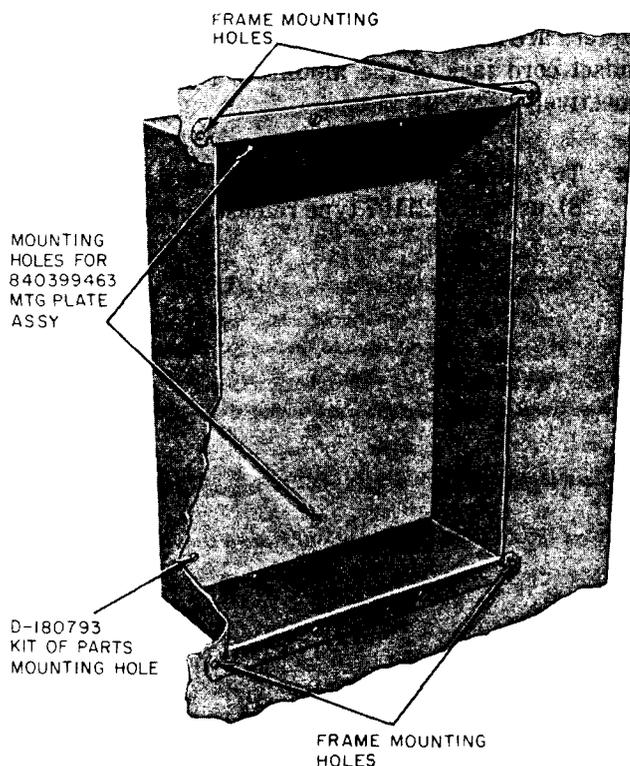
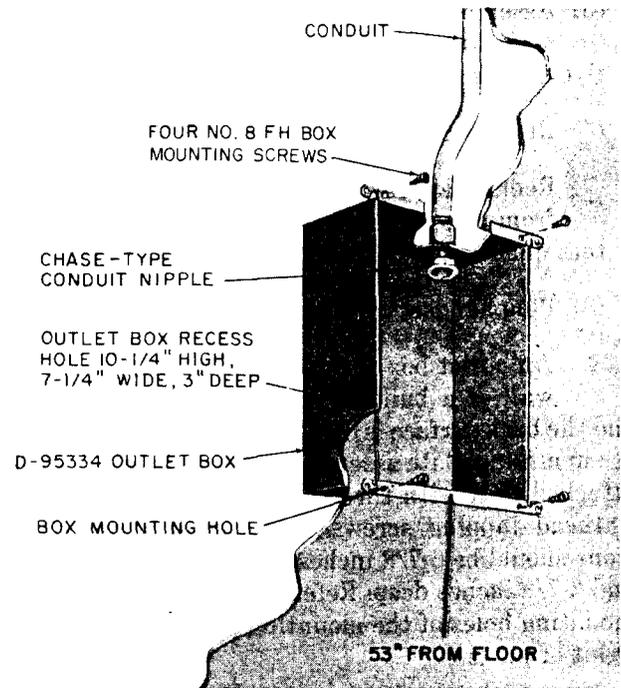

Fig. 4—D-95334 Outlet Box
Fig. 5—Mounting of Outlet Box
3.05 Outlet boxes (Fig. 4 and 5) furnished by the customer or telephone company should be installed by the customer.
3.06 It is recommended that generally the standard outlet box (Fig. 4 or 5) be mounted in a recess 10-1/4 inches high, 7-1/4 inches wide, 3 inches deep, and 53 inches from floor as illustrated in Fig. 5 or as specified by the customer.
- (1) Mount the mounting plate assembly in the outlet box using two round head machine screws 802056515 (P-205651) furnished with the box (Fig. 4 and 5).